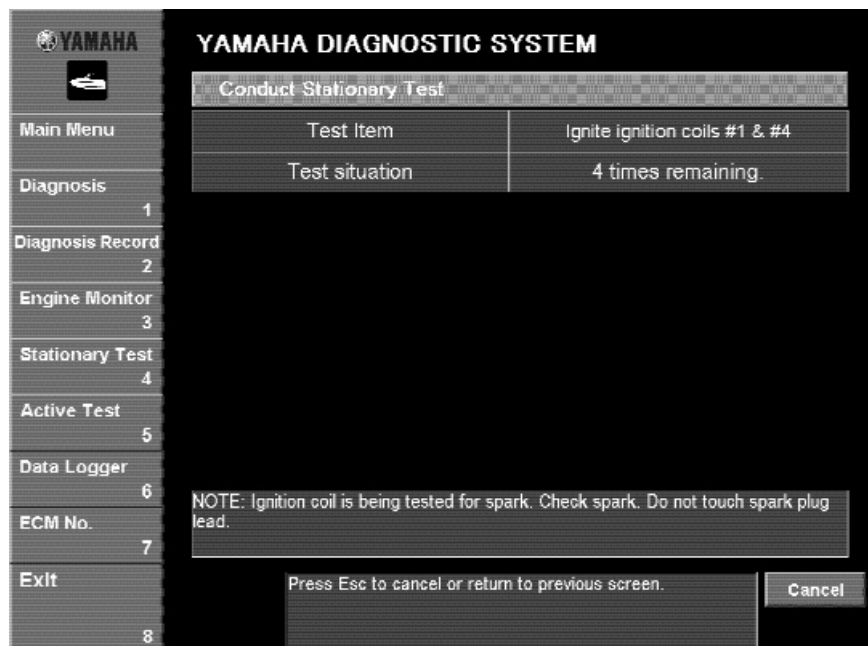

Fig. 43
6. While checking the information that appears in the **Test situation** column, follow the test instructions in the messages that are displayed (see Fig. 43).
7. To stop the stationary test, click the Cancel button (see Fig. 43).